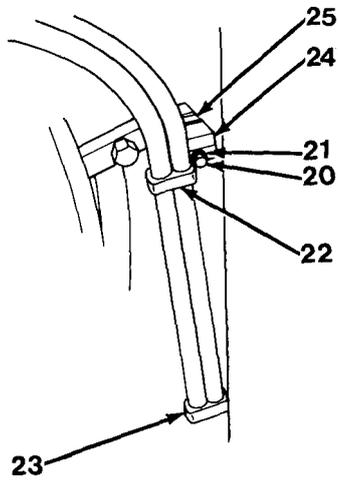

Figure 17-4
8. Install four clamps (25), two clamps(24), clamps (23) and (22), washers (21) and bolts (20, Figure 17-4) under right frame.